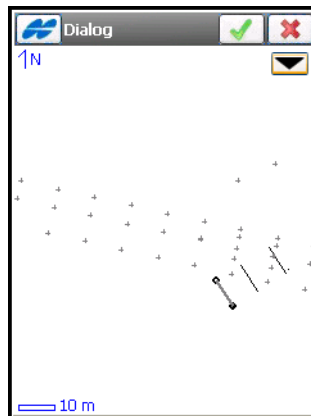

Figure 6-38. Select Points from Map
**From Map:** select the points by tapping them on the map; points that are sequentially tapped are connected with a line to arrange an area (Figure 6-38 on page 6-31).
**From Map:** select the points by tapping them on the map; points that are sequentially tapped are connected with a line (Figure 6-38 on page 6-31).